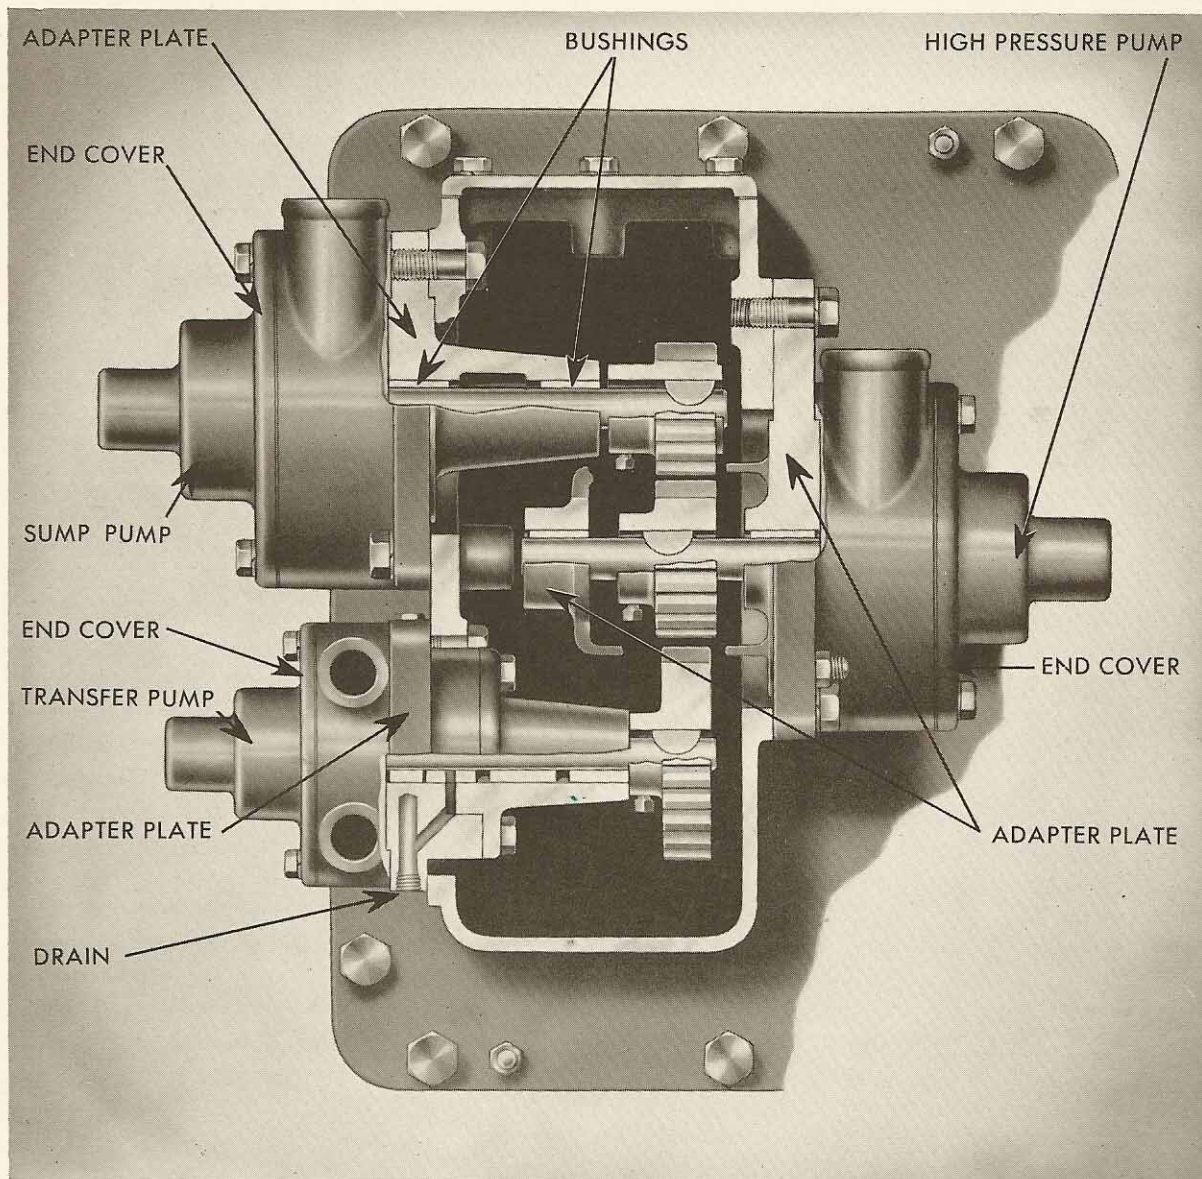

FIGURE 20-4
2. DISASSEMBLY: These pumps will need little attention, but if they are taken apart great care should be taken that all parts are marked so they will be assembled in the proper order. The pumps are attached to the engine by adapters which permit their removal in one piece for inspection of the bushings. As these bearings do not wear out all at once, we suggest that if they are worn, the pump be re-installed on the engine and repairs made at a base where the necessary equipment is available. Figure 20-4 shows the adapter plates which hold the bushings of the pump shafts.
5. FUEL-TRANSFER PUMP: Figure 20-4. This pump is exactly the same in principle and operation as the two lube pumps except that there is a drain arranged so that fuel leakage can not find its way into the crankcase. This drain is shown in Figure 20-4 and SHOULD NEVER BE PLUGGED.